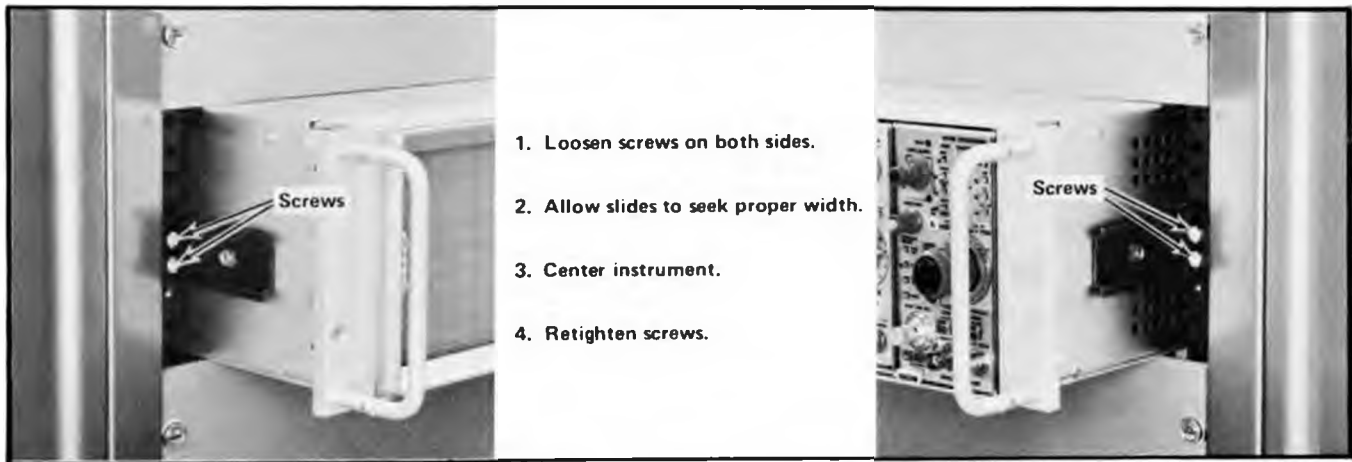

Fig. 6-5. Adjusting the slide-out tracks for smooth sliding action.
5. Follow the procedure given in Fig. 6-5 to adjust the alignment of the stationary sections.